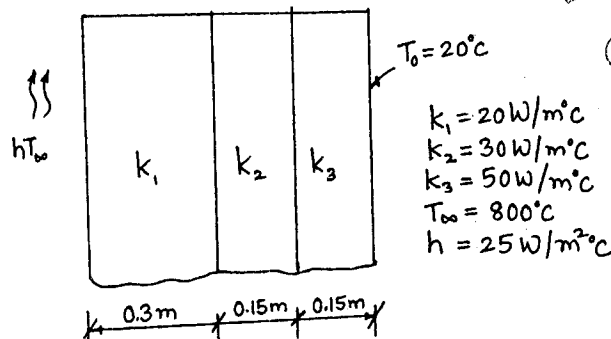

Fig.Q8(a)
- 8 a. Solve for temperature distribution in the composite wall shown in Fig.Q8(a). Using 1 – 1 heat elements, use penalty approach of handling boundary condition. (16 Marks)